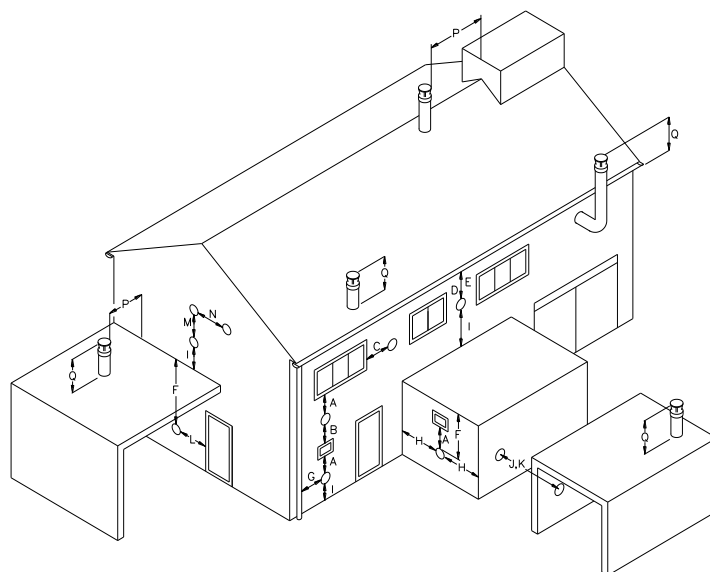

FIGURE 8.1: FLUE TERMINAL POSITIONS
The flue must terminate in a freely exposed position and be so situated as to prevent the products of combustion entering any opening in a building. For further information on terminal locations, please refer to **Figure 8.1**.
1. Determine the location of the flue terminal, taking into account minimum distances as detailed in **Figure 8.1**, **Table 8.1** and the relevant British Standards.
2. Determine the desired location for the flue terminal, taking into account minimum distances as detailed in **Figure 8.1, Table 8.1** and the relevant British Standards.